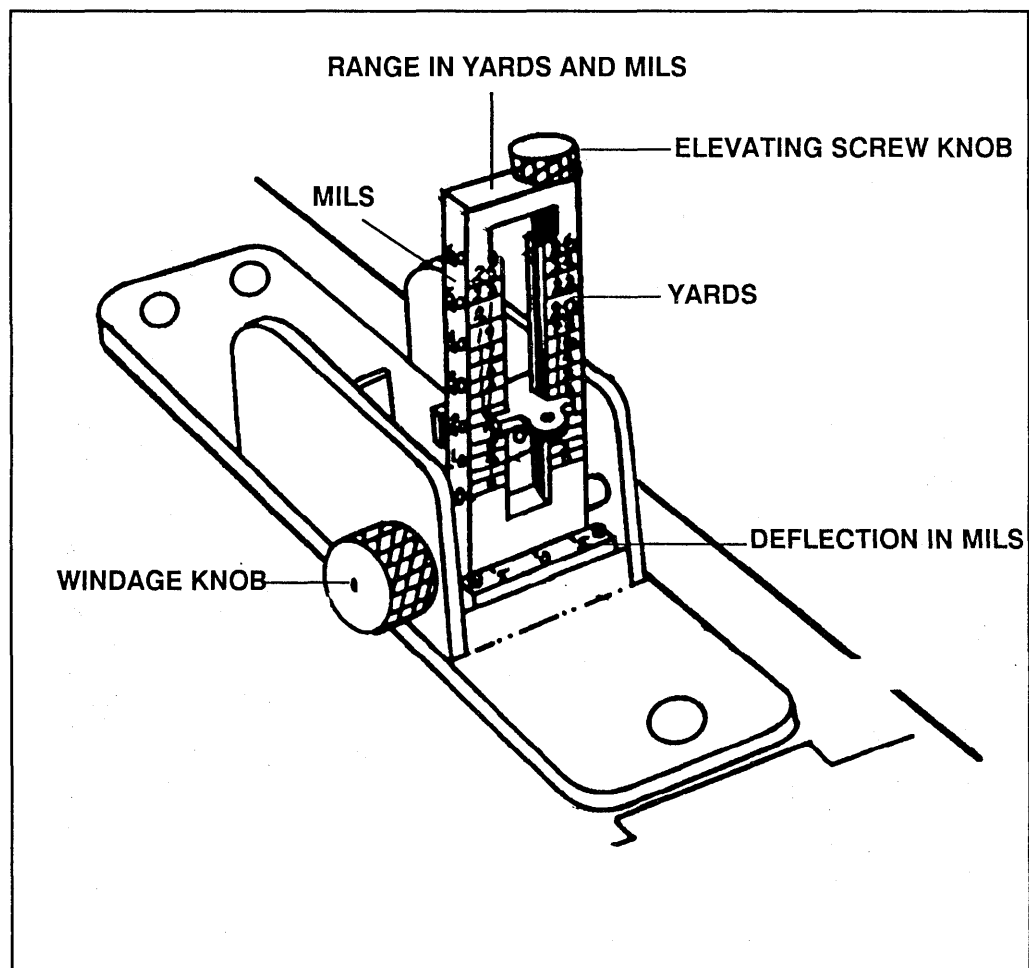
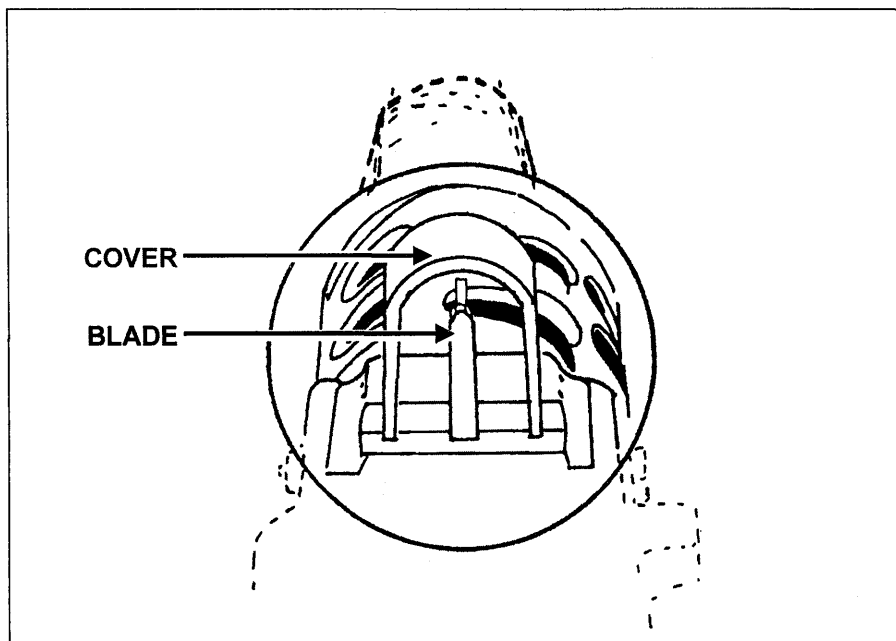

Figure 1-3. Leaf type rear sight.
Figure 1-4. Front sight, cover, and blade.
b. The gun has a leaf-type rear sight (Figure 1-3), graduated in both yards and mils. The scale ranges from 100 to 2,600 in yards, and from 0 to 62 in mils. The windage knob permits deflection changes to right or left of center. The front sight is a fixed blade type with cover (Figure 1-4).